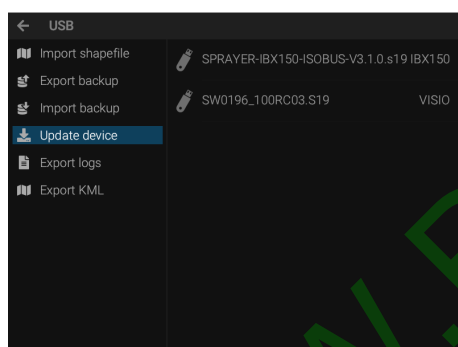

Fig. 107
- Select the file you want to use for the update (Fig. 107).